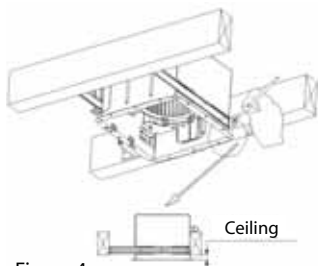

Figure 4
- To install the housing in the ceiling, position it between the joists and extend the brackets to the adjacent joists. Mark the screw locations (at the top of the keyhole on each bracket) on the joists. Note: make sure to allow the appropriate depth for the particular ceiling type. The bottom edge of the housing should be flush with the ceiling. (Figure 4)